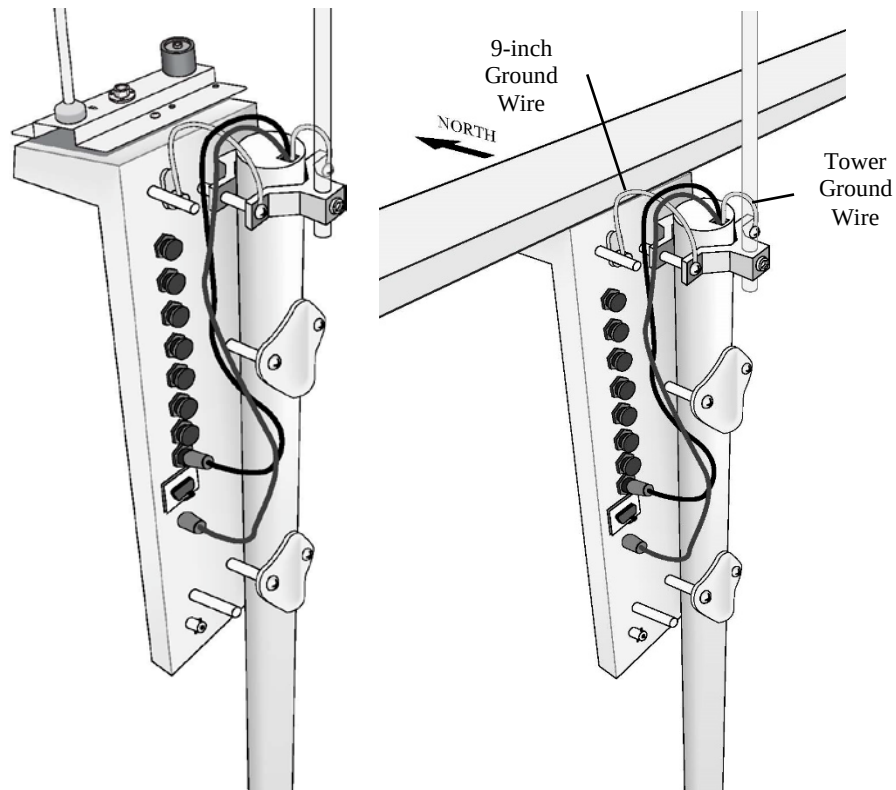

FIGURE 3-5. Mounting and Grounding the ET Enclosure
1. Mount and ground the ET enclosure on the ET Tower as shown in FIGURE 3-5.